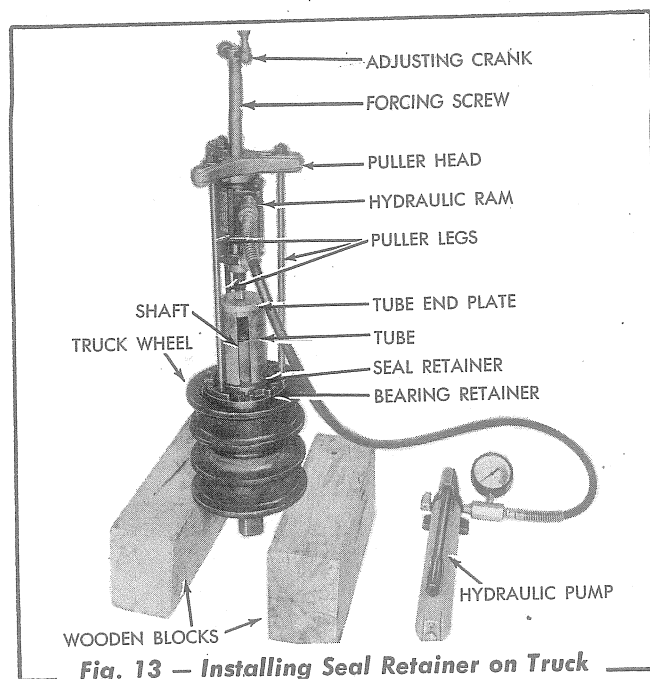

Fig. 13 — Installing Seal Retainer on Truck Wheel Shaft
7. Coat the mating surfaces of the seal rings with oil. Press the seal retainers, with seal components, on each end of the shaft as shown in Fig. 13. Press the seal retainers onto the shaft until the outer faces of the seal retainers are 3.260" to 3.265" in from the end of the shaft (Fig. 6).
7. Coat the mating surfaces of the seal rings with clean oil. Using tools similar to those shown in Fig. 13, press the seal retainer assembly (with the outer seal ring cemented in place) onto the shaft until the outer face